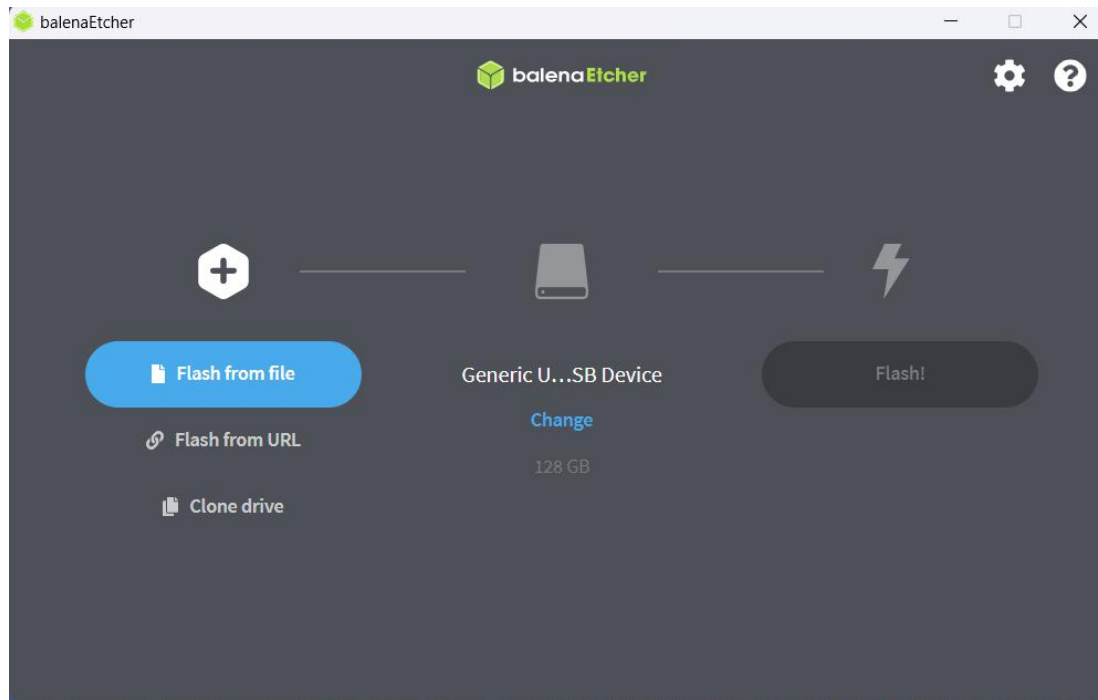

Figure 2: BalenaEtcher interface
1. Open BalenaEtcher > Flash from file (Fig.2)